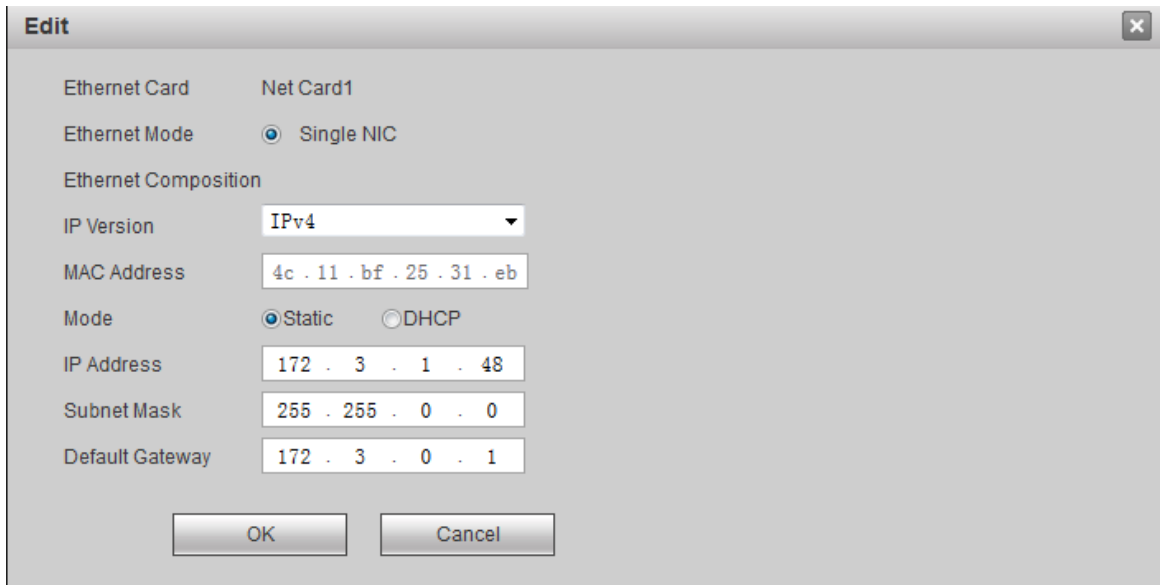
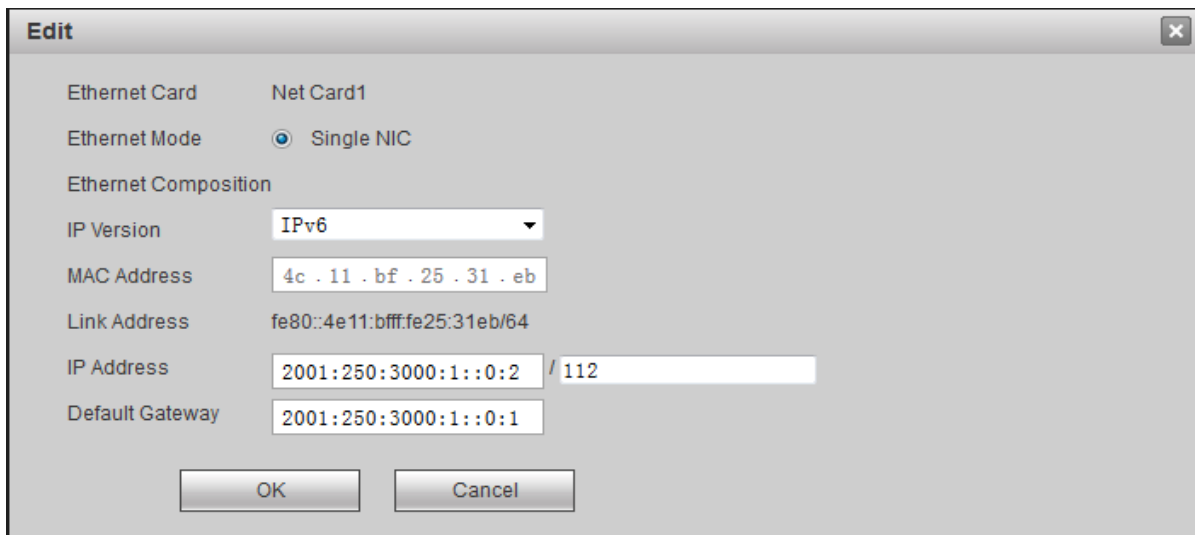

Figure 4-47
Figure 4-48
Step 3 Click  to modify net card info, as shown in Figure 4-47 or Figure 4-48.